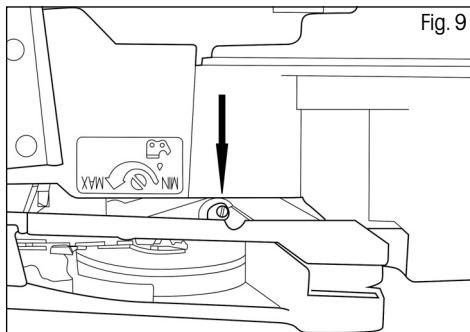

Fig. 9
- Before starting work, check the chain lubrication and the amount of oil in the oil tank. Start the chain saw and hold it above the ground. If you see a growing oil stain then chain lubrication is working properly. If there are no oil stains on the ground, adjust the lubrication strength on the underside of the chain saw (Fig. 9).